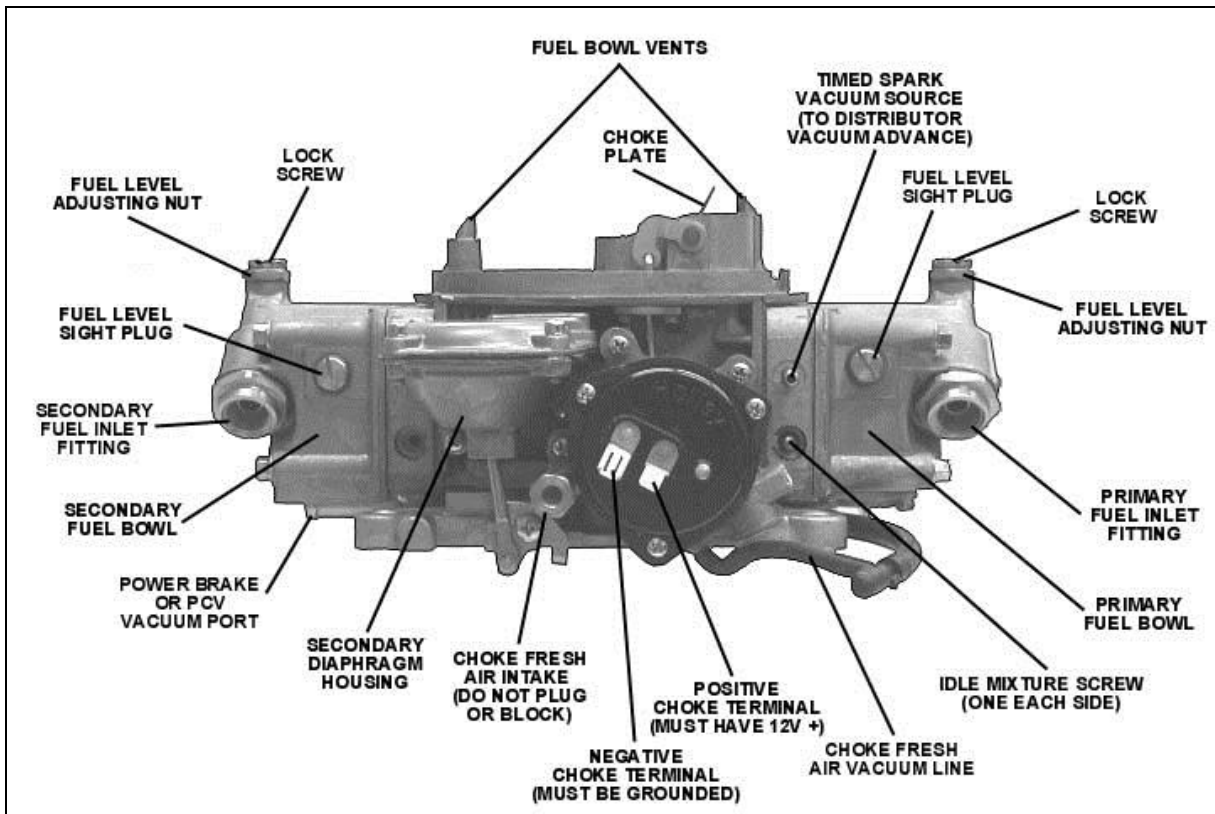

Figure 6
6. Reconnect the appropriate vacuum hoses to the carburetor, noting the correct fitting from Figure 6 and 7. Replace any cracked or dry rotted hoses at this time to prevent any vacuum leaks.